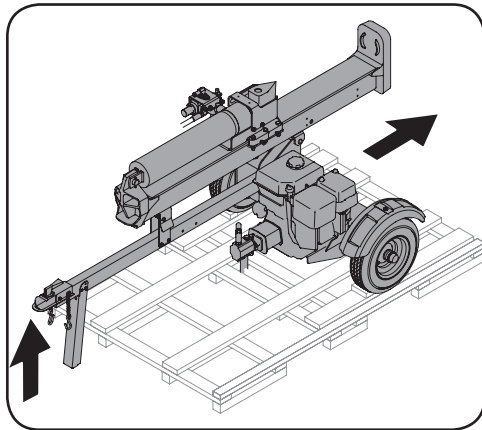

Figure 3-7
2. Carefully move the log splitter off of the crate by lifting up on the tongue tube, near the hitch coupling, and slowly pushing the machine backwards — over the two rear wheel chucks — and off the back of the crate base. See Figure 3-7.